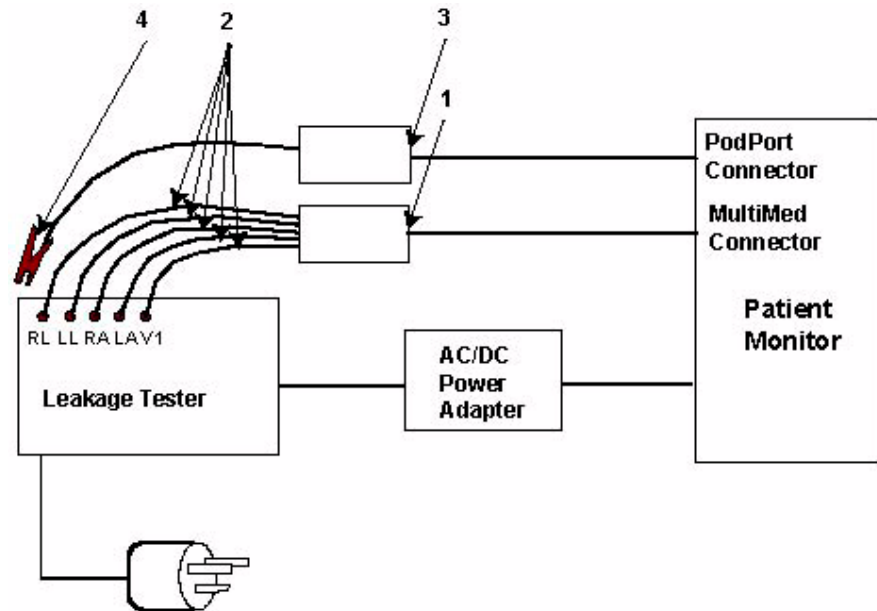
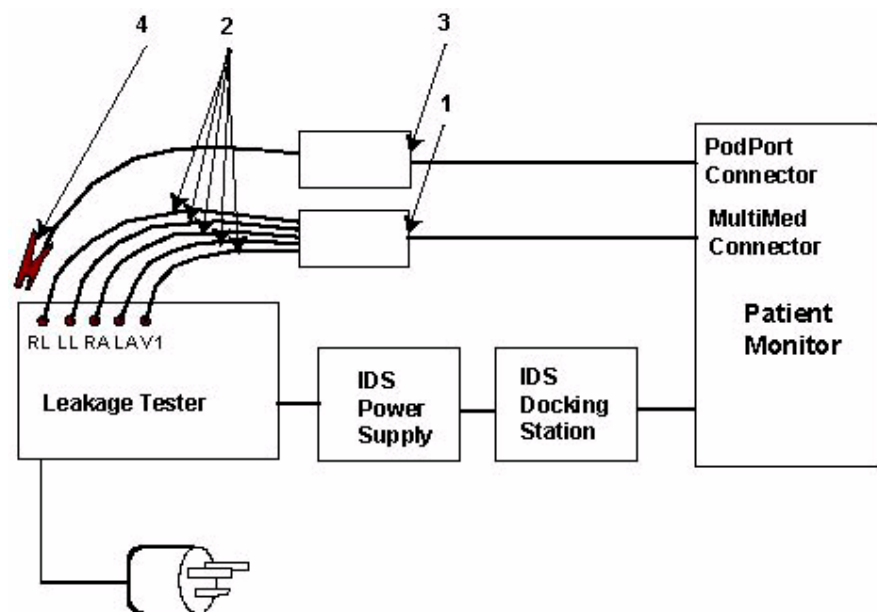

Figure 3 Block Diagram: Earth Leakage Current (AC/DC Power Adapter)
Figure 4 Block Diagram: Earth Leakage Current (Infinity Docking Station)
1. Perform leakage current tests on a Gamma series monitor with ac power adapter (see Figure 3) or IDS power supply (see Figure 4) plugged into leakage tester. Attach MultiMed cable (1 in Figure 3 and in Figure 4) to Monitor. Attach MultiMed cable ECG leads (2 in Figure 3 and in Figure 4) to corresponding posts at Leakage Tester.
2. Follow leakage tester manufacturer's instructions to measure each leakage current given in Figure 4, for each of following conditions:
4. Document test results on a copy of Test List Report. Disconnect MutiMed cable ECG leads (2 in Figure 3 and in Figure 4) from corresponding posts at Leakage Tester. Short together all leads to shield at end of PodCom Leakage Test Cable (4 in Figure 3 and in Figure 4) and connect leads and shield to RL post of Leakage Tester. Attach Pod Com Leakage Test Cable (3 in Figure 3 and in Figure 4) to Gamma PodPort connector. Follow leakage tester manufacturer's instructions to measure each leakage current given in Figure 4 , for each of following conditions: